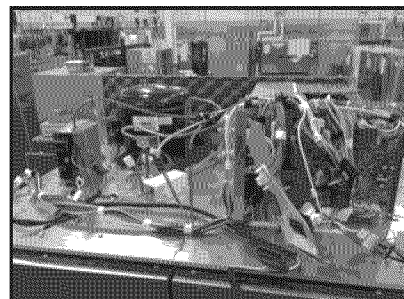

FIGURE 20
- Set the HV box assembly on top of unit for reassembly as shown in *Figure 20*. The screws on the top will not match up with the new HV box assembly.